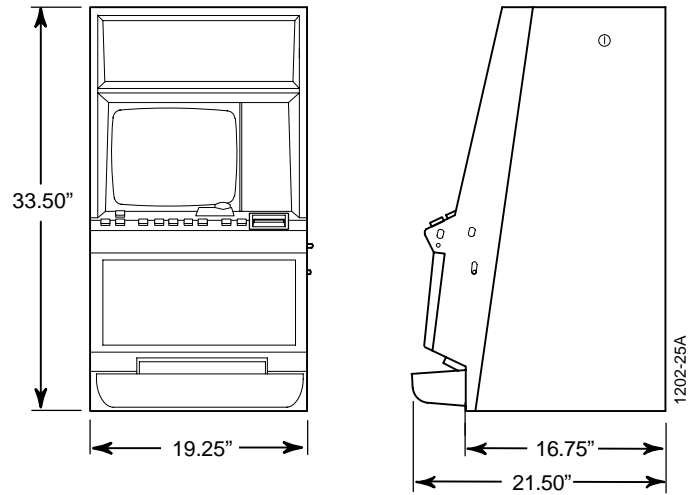

Figure 3-1. Cabinet Dimensions – Player's Edge-Plus 13" Upright Model with Imbedded Bill Acceptor
- Cabinet Dimensions – Figures 3-1 and 3-2